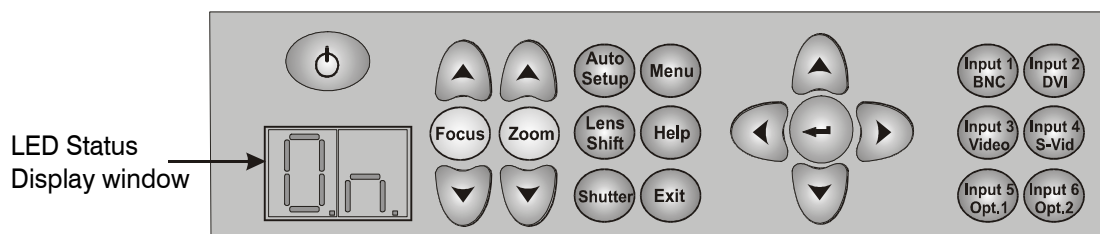

Figure 3-2 Built-in Keypad at Projector Rear
- **The Built-in keypad** (Figure 3-2) located at the rear of the projection head
To control the projector when signals from a remote cannot reach the projector, use the projector's built-in keypad (Figure 3-2). The 2 nearby Status windows provide feedback, indicating current status and activities of the projector, (refer to Table 3.2). Because the built-in keypad has fewer keys than on the remote keypad, certain projector functions are accessible only through the **Menu** system, rather than via a direct key press.